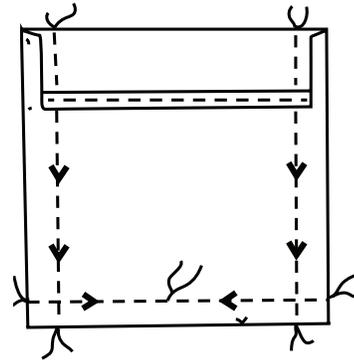

Figure 1
2. Finish edge hem. Fold the hem to the right side of the pocket and stitch around the pocket on 5/8-in. line. Stitch from top to bottom on each side, then stitch from side to side across the bottom (Figure 1).
3. Trim seam allowance of hem close to stitching (Figure 1). Turn hem right side out. Press pocket seam allowance along 5/8-in. stitching line.